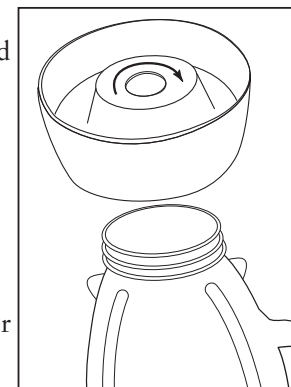

FIGURE 4
- Snap threaded bottom disc and collar together. Place collar over blade and jar. (Note: If there are slots on top of collar, line them up with notches on jar.) Place the collar on jar and turn the threaded bottom disc clockwise to tighten. (Figure 4)